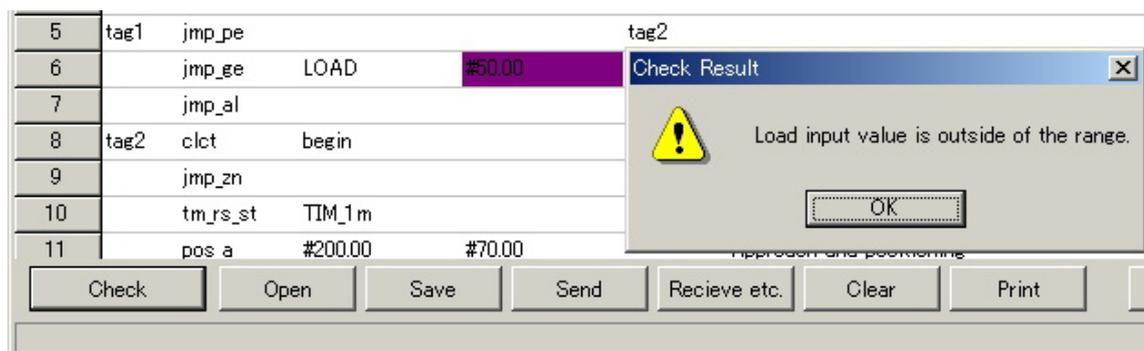

Fig.4-5 Program check result
| (15) | Check | The grammar of a program is checked. When there is an error, the part which has an error as shown in Fig. 4-5 is pointed out. |